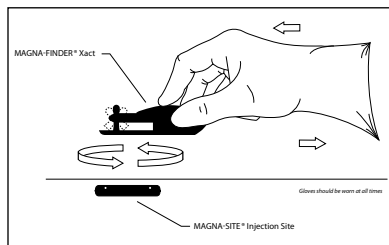

FIGURE 2
Step 3: Slowly move the base of the MAGNA-FINDER® Xact locating device in a circular motion (as shown in **Figure 2**) until the magnet of the locating device detects (points towards) the location of the injection site on one plane.